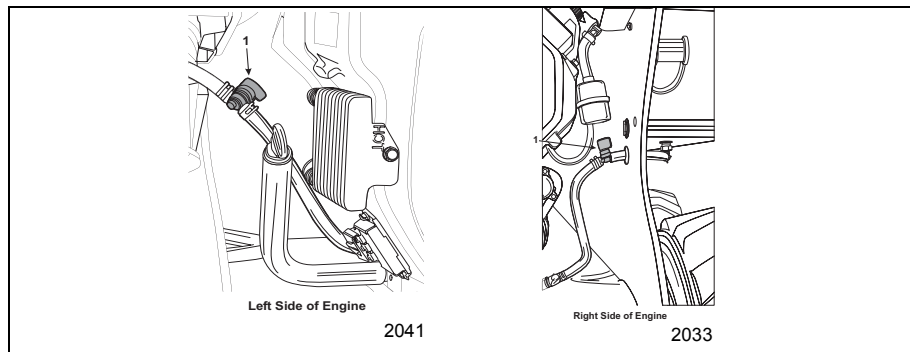

Figure 3-11 Fuel Shut Off Valves
6. (Gasoline Units Only) Shut off the in-fuel valves underneath each of the fuel tanks (Item 1, Figure 3-11) when transporting the unit to prevent possible carburetor flooding due to vibration.